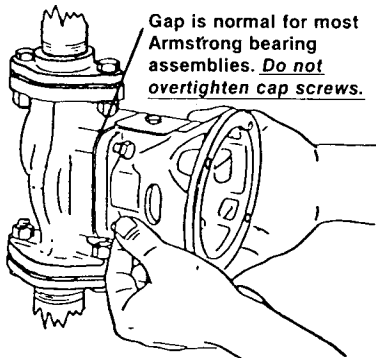

FIG 5. Installing bearing assembly to body
- 7 With new gasket in place, fit Seal Bearing Assembly / Impeller kit into pump body and tighten body cap screws (FIG. 5).
recess in shaft. Securely tighten set screw in recess and attach motor assembly to bearing assembly with 4 cap screws. In case of couplers with 2 set screws, tighten one in recess and one snug on shaft (FIG. 5).